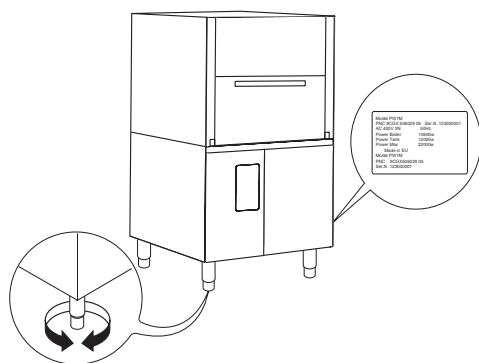

Figure 7
The rating plate contains identification and technical data and is located on the right-hand side panel of the appliance (Figure 7).
- Position the potwasher and level the appliance by adjusting the appropriate bullet feet (Figure 7).